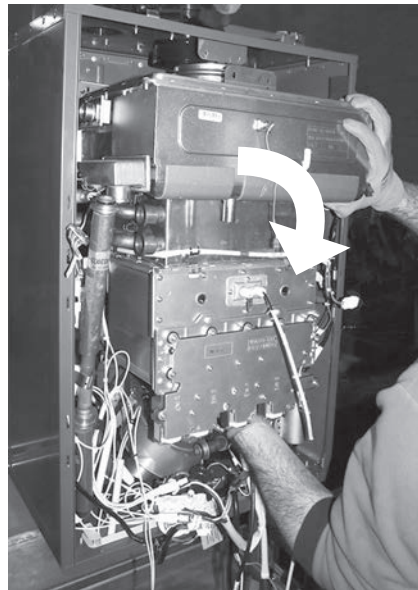
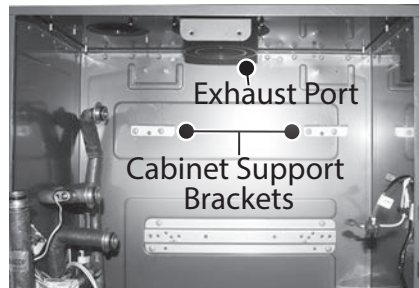

Figure 156 - Removing heat exchanger assembly
Figure 157 - Cabinet support brackets
- 48 Remove the top two screws from install bracket. Allow heat exchanger to drop slightly so it can be disconnected from exhaust port then lift to remove heat exchanger from the two cabinet support brackets and the water heater. See Figure 156 and Figure 157 for reference.
- 72** Lift heat exchanger assembly into water heater cabinet. Lean the top side of heat exchanger slightly toward you so the two tabs on the backside of the secondary heat exchanger insert into the two cabinet support brackets as shown in Figure 157.